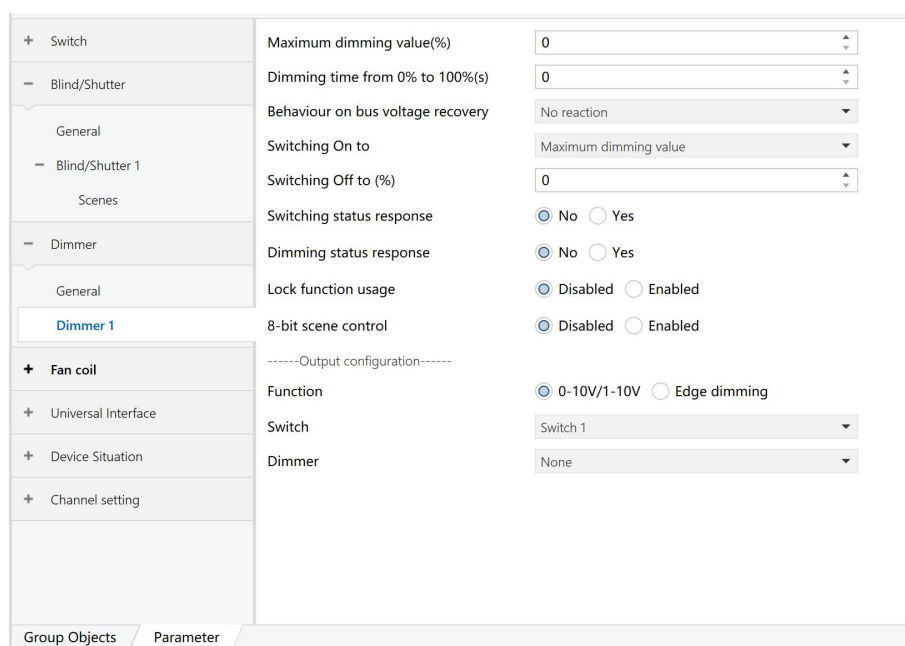

Figure 6.3.2
2) As shown in Figure 6.3.2, after dimming is enabled, the function configuration about dimming will appear on the right, and Dimmer1 is taken as an example below